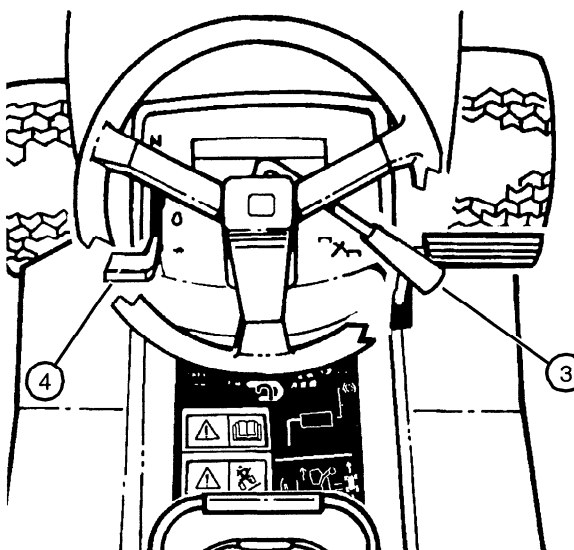

FIG. 20
- Move throttle lever (4) to fast detent position. (See Fig. 20)
- Push mower PTO drive lever (3) forward to start blades.